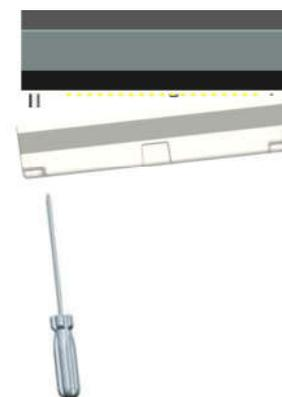

FIG.5
4. Remove the PC protective cover on the LED head (see FIG. 5). The PC cover is only meant to protect the LEDs during shipment and installation. It has to be removed after installation.